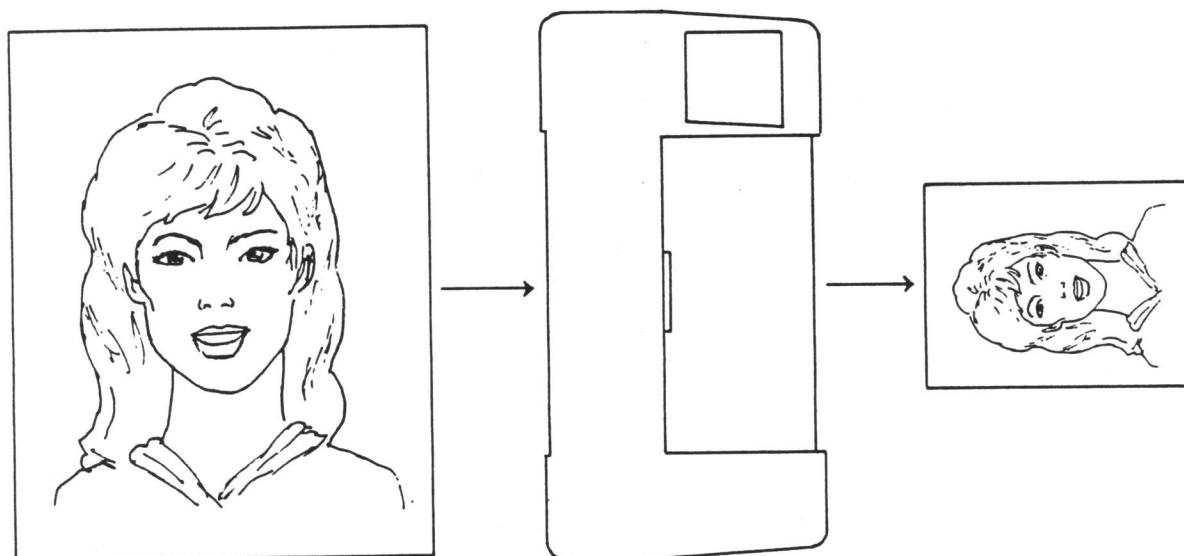

Figure 4-3
A. Scaling down from a B size landscape plot file to an A size plot and rotating the output (see Figure 4-3):
B. Scaling down from a C size portrait plot file to an A size plot (see Figure 4-3):